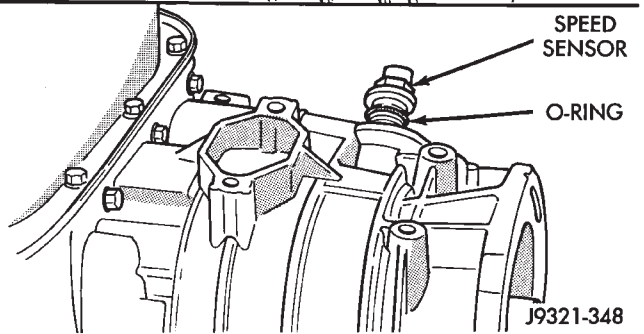

Fig. 192 Transmission Speed Sensor Removal/Installation
- (1) Remove transmission speed sensor and O-ring seal from overdrive case (Fig. 192).